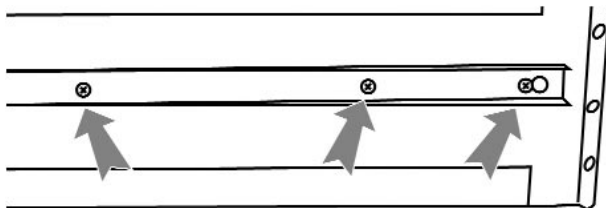

Figure 47 Attach Rail to Chassis
Step 2. Attach inner slide rail to chassis using 3 x 8300047 M4 screws, as shown in FIGURE 47.